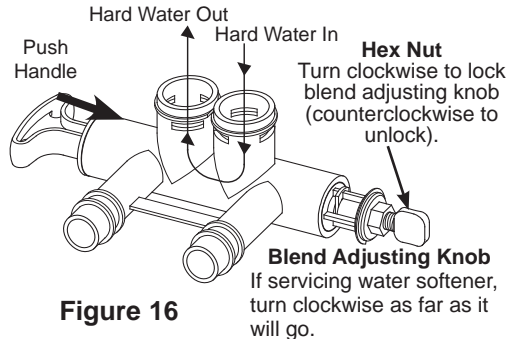

Figure 16
1. Hold bypass handle to keep the valve stem from rotating (see Figure 16). Loosen hex nut on blend adjustment knob by turning the hex nut counterclockwise (see Figure 16).
2. **TO INCREASE HARDNESS:** With the bypass in the service position (see Figure 16) hold the handle to keep the valve stem from rotating and turn the blend adjusting knob counterclockwise up to 2 turns from the closed position. It is recommended that adjustments be made in quarter turn increments over several weeks until the desired hardness is achieved. **NOTE:** Once an adjustment is made to the blend valve knob the change in water hardness at the homes faucets or shower heads may take several days to be noticed. This delay is due to the large amounts of already conditioned water in the pipes and water heater that must be exchanged before a change in hardness can be noticed. Have the water tested to determine the actual water hardness.
3. **TO DECREASE HARDNESS:** With the bypass in the service position (see Figure 16) hold the handle to keep the valve stem from rotating and turn the blend adjusting knob clockwise. When the knob will not turn anymore, hard water is no longer being blended into the soft water.
4. Once the desired hardness is achieved tighten the hex nut (see Figure 16) clockwise until it comes in contact with the bypass stem.